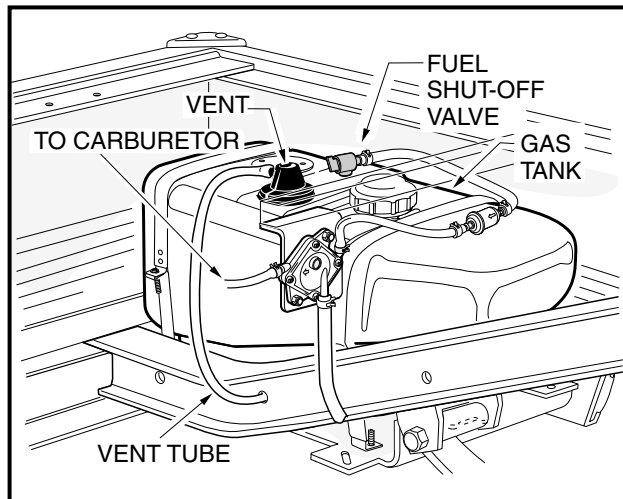

Figure 10-6 Gasoline Tank
- If the vehicle has an all-weather enclosure installed, the gas tank must be properly vented as shown (Figure 10-6, Page 10-8).
2. Remove fuel cap and fill the fuel tank with fresh, unleaded gasoline only (Figure 10-6, Page 10-8). See following **CAUTION** and **NOTE**.